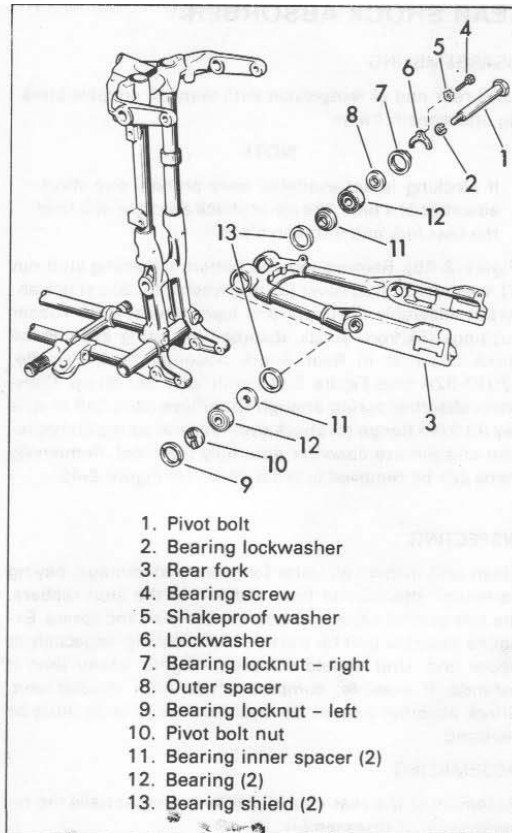

Figure 2-51. Rear Fork - Exploded View
DISASSEMBLING (Figure 2-51)
See order of disassembly, Figure 2-51. Remove pivot bolt (1) and lockwasher (2) from rear fork (3). Rear fork can now be disassembled from frame. Remove the following parts: Bearing screw (4), bearing shakeproof washer (5), bearing lockwasher (6), bearing locknut - right (7) and bearing outer spacer (8). With a punch turn out bearing locknut - left (9) and remove pivot bolt nut (10). From inside of fork press or drive out bearing inner spacer (11) and bearing (12), by applying pressure against spacer (11). Press or drive out bearing shields (13) from fork inner side.
ASSEMBLING (Figure 2-51)